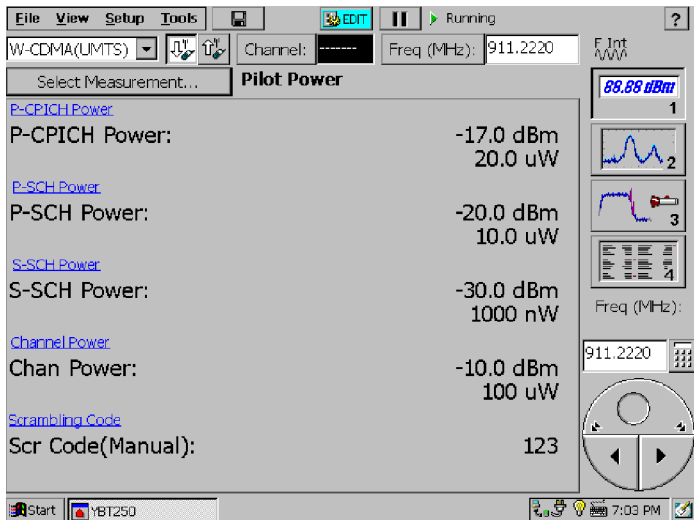

Figure 3-62: A typical W-CDMA Pilot Power display
5. Tap **Pilot Power**. See Figure 3-62.